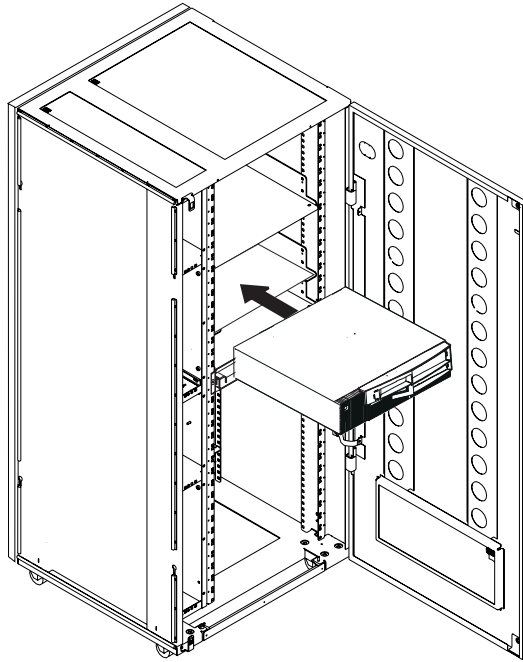

Figure 1-7. Installing the Service Processor Unit in the Controller Expansion (Front Side)
12. ____ Slide the service processor unit on the brackets as shown in Figure 1-7 on page 1-14.